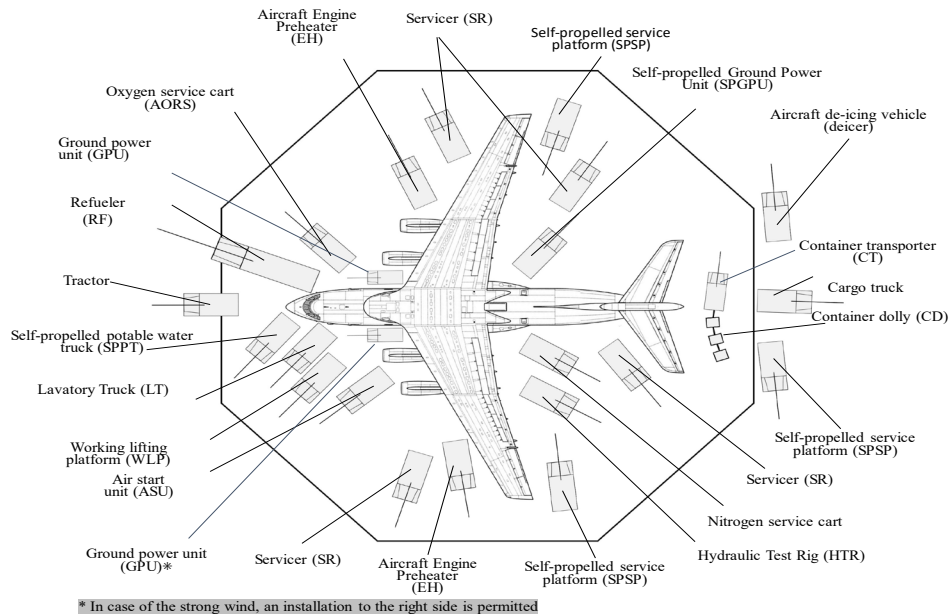

Figure 14 Layout of special vehicles and equipment when servicing IL-76TD-90VD aircraft
- Layout of special equipment when servicing aircraft is shown in Figure 14.